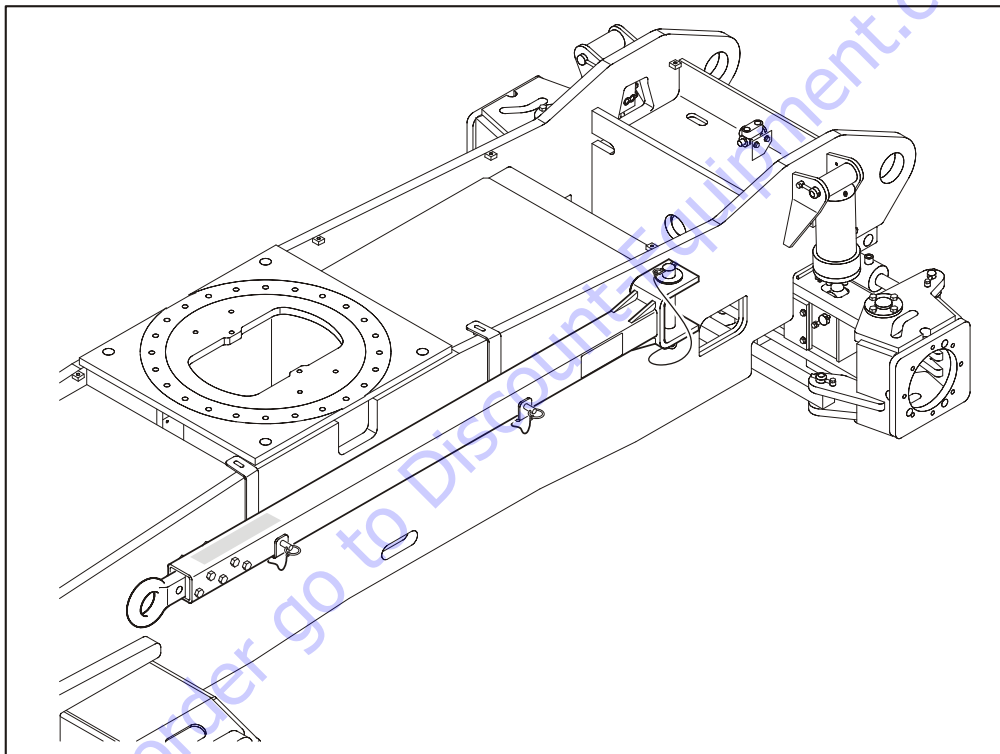

Figure 4-7. Tow Bar
3. Disconnect tow bar from towing vehicle and place it in the stowed position as shown in Figure 4-7. The machine is now in the driving mode.